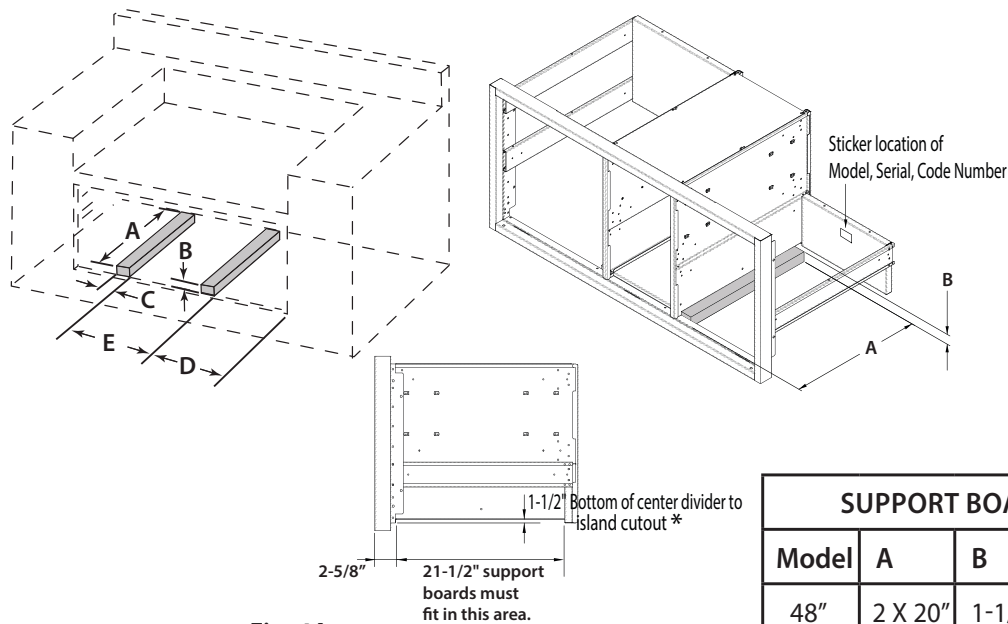

Fig. 4A
2. Place 2 X 4s to provide support for the Access Drawers structure in the locations indicated in Fig. 4A.
- Ensure that the bottom of the center divider rests on top of the support boards as shown (Fig. 4A).